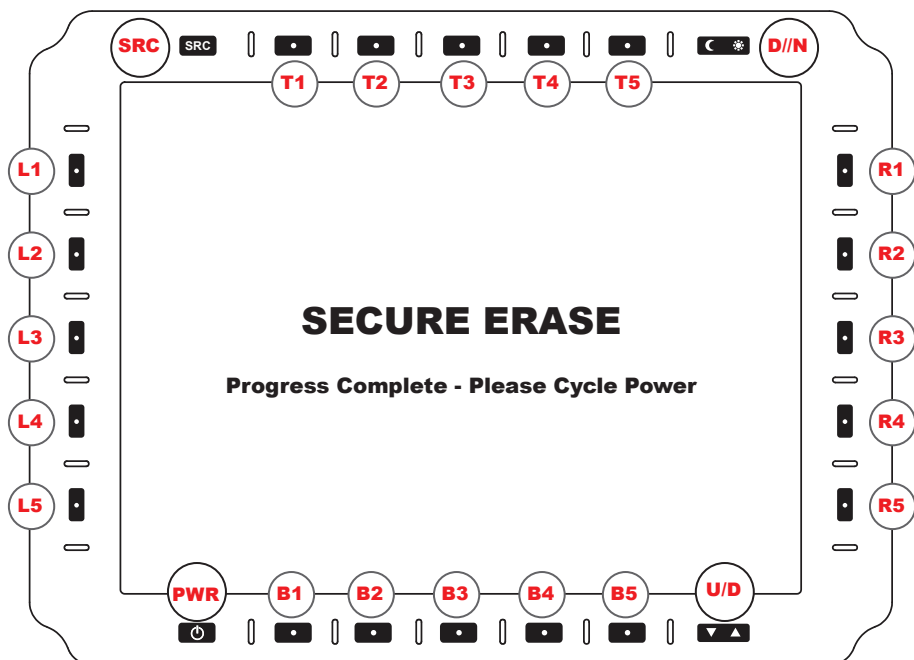

FIGURE 18. SE PROGRESS COMPLETE. PLEASE CYCLE POWER.
PLAY (L1). Displays PLAY if Video is selected to view. Press to start selected file playback. See submenu Video Playback (Figure 18).
- When SE is complete, screen reads 'Secure Erase Progress Complete; Please Cycle Power' which means 'Reboot the unit' (Figure 18)